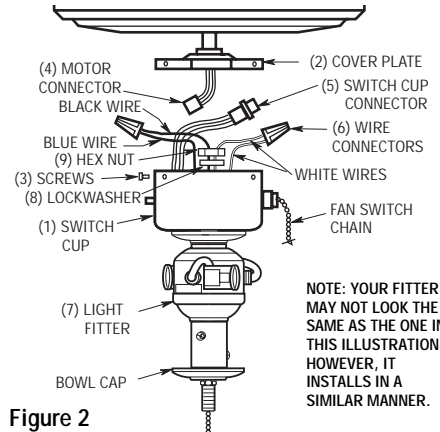

Figure 2
6. Insert the black and white wires from the light fitter(7) through the center hole in the switch cup (Figure 2) and thread the switch cup onto the light fitter. Hold wires taut while installing switch cup to prevent the wires from twisting.
7. Insert the black and white wires through the lockwasher(8) and hex nut(9) supplied. Firmly tighten the hex nut to secure the light kit fitter to the switch cup.
8. Connect the white neutral wire from the switch housing to the white neutral wire of the light fixture (Figure 2). Connect the blue line (hot) wire from the switch housing to the black line (hot) wire of the light fixture. Use listed wire connectors (previously removed in step 5) to make connections (Figures 2 and 3). The neutral and line (hot) wires must be installed as instructed to maintain proper polarity at the lampholders.
9. Carefully tuck all wires and splices into the switch cup(1). (Figure 2.)
10. Connect the motor connector(4) to the switch cup connector(5).
11. Position the switch cup(1) and fitter assembly(7) on the cover plate(2) and install the three screws(3) that were previously removed in Step 2 and tighten securely.